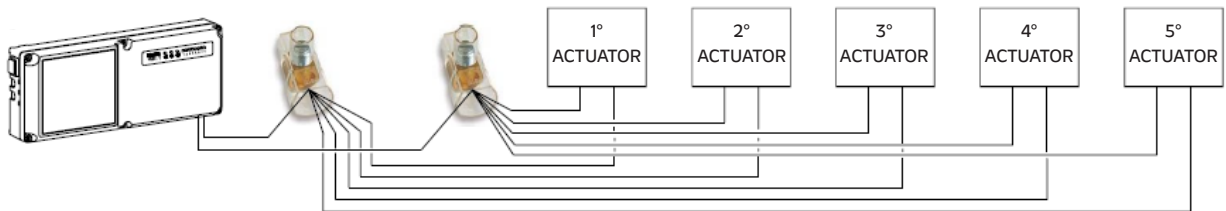

Fig. 5: Wiring example for up to 5 actuators per channel with cap terminals.
**Note:** Each output can drive up to 5 actuators, provided that the power absorption of all actuators connected to the wiring centre is kept within the stated value (see **Technical Features** section). For the electrical wiring of several actuators please use the cap terminals provided, as shown in Fig.5.